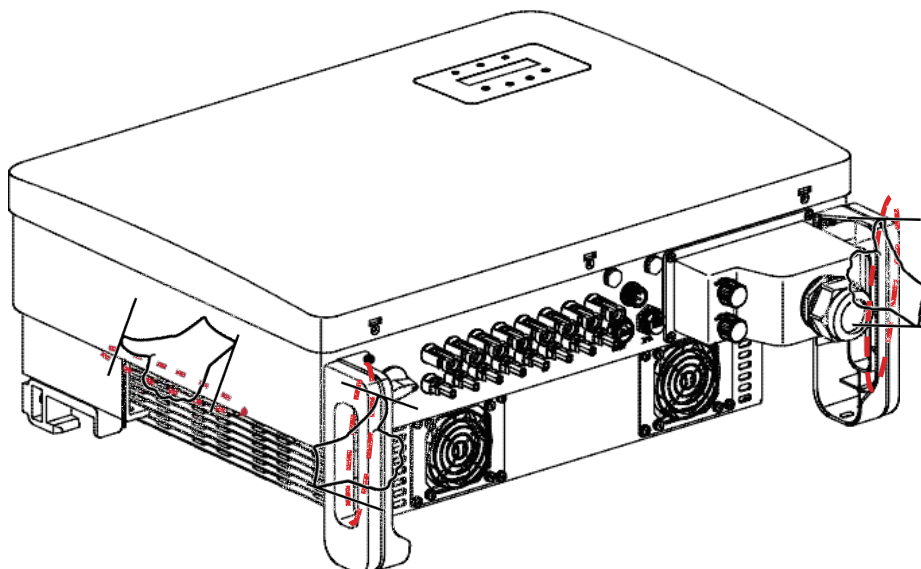

Figure 4.2 Inverter handles
- Open the carton, then two people handle both sides of inverter through the area denoted dotted line. (see figure 4.2).